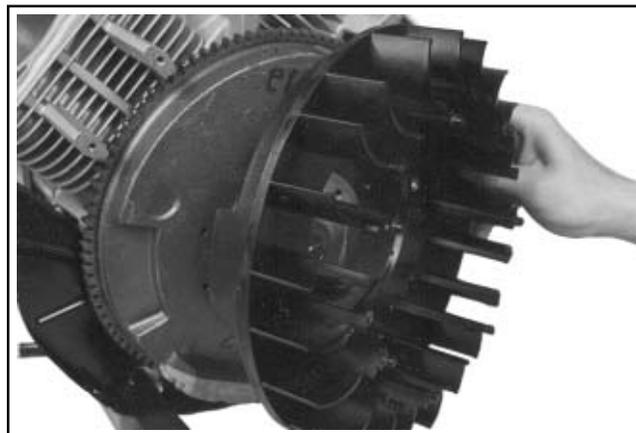

**Figure 11-29. Installing and Torquing Flywheel Fastener.**
4. Use a flywheel strap wrench or holding tool to hold the flywheel. Torque the hex. flange screw securing the flywheel to the crankshaft to **66.4 N·m (49 ft. lb.)**. See Figure 11-29.